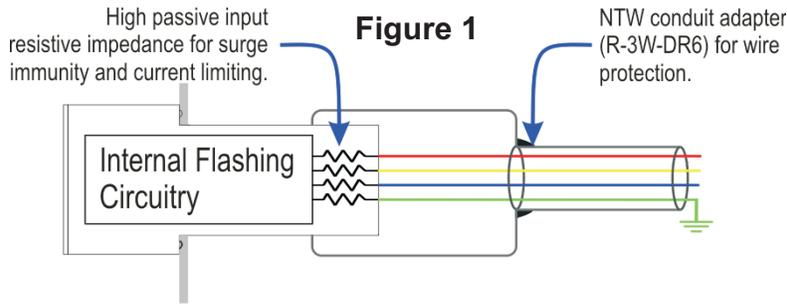

Figure 1
- **High Impedance:** PWA's are C-UL-US Listed (file E256847, CCN: NKCR-Auxiliary Devices) for use in a UL 508A industrial control panels or UL 845 motor control centers. UL performed a single component evaluation test that insures the device would not experience a catastrophic failure due to a component failure, thereby causing a direct short circuit between phases. UL determined that PWA's are a self-protected device whereby a single component failure draws no more than 3.7mA current at 750VAC applied to the device. The large passive input resistors on each phase of the PWA provide this current limiting function with a nominal current draw of 300µA between phase at 480VAC (Figure 1).